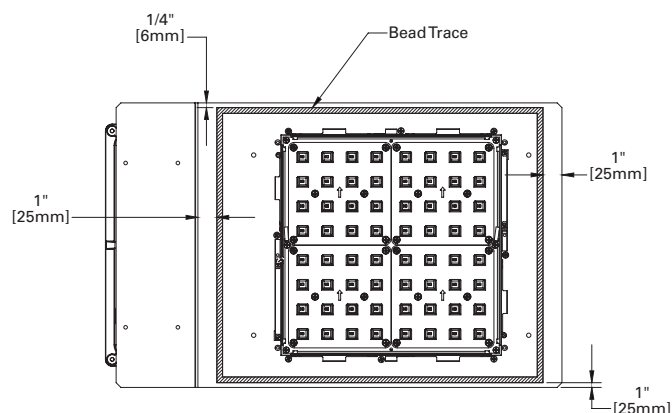

FIG. 5
12. Apply 1/4" bead of Industrial strength sealant/adhesive (NOT PROVIDED) around the perimeter of the housing frame plate as shown (**FIG. 5**).